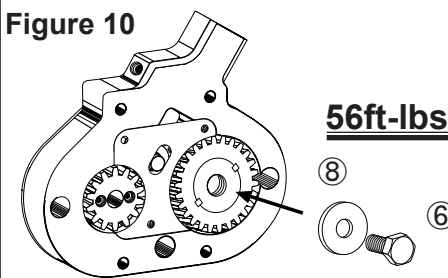

Figure 11
21. See Figure 11. Remove the thrust bearing from stock oil slinger rod. Install thrust bearing to the supplied 30mm Extension rod 36. Install the ball bearing33 and Extension rod 36.